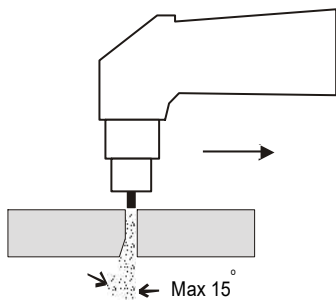

Fig. 9
1. The cutting speed is too high. Make sure the slope of the cutting arc does not exceed about 15° (see Figure 9).